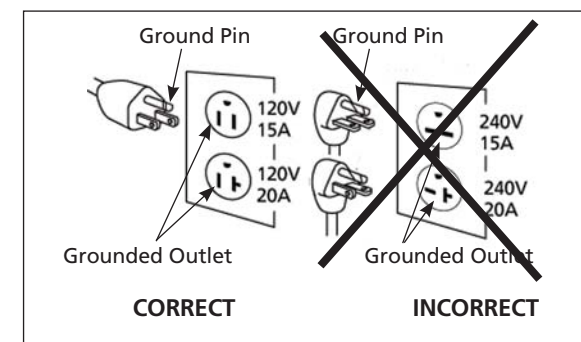

Figure 3 - Grounding Method
1. This product is for use on a nominal 120 v circuit. It must be grounded. In the event of an electric short circuit, grounding reduces the risk of electrical shock by providing an escape wire for the electric current. Unit is equipped with a cord that has a grounding prong. It will fit one of the common outlet types shown in Figure 3. If plug will not fit in the desired outlet, have the plug or the outlet replaced by a qualified electrician.
- This product is for use on a nominal 120 volt circuit and has a grounding plug that looks like the plug illustrated in Figure 3.